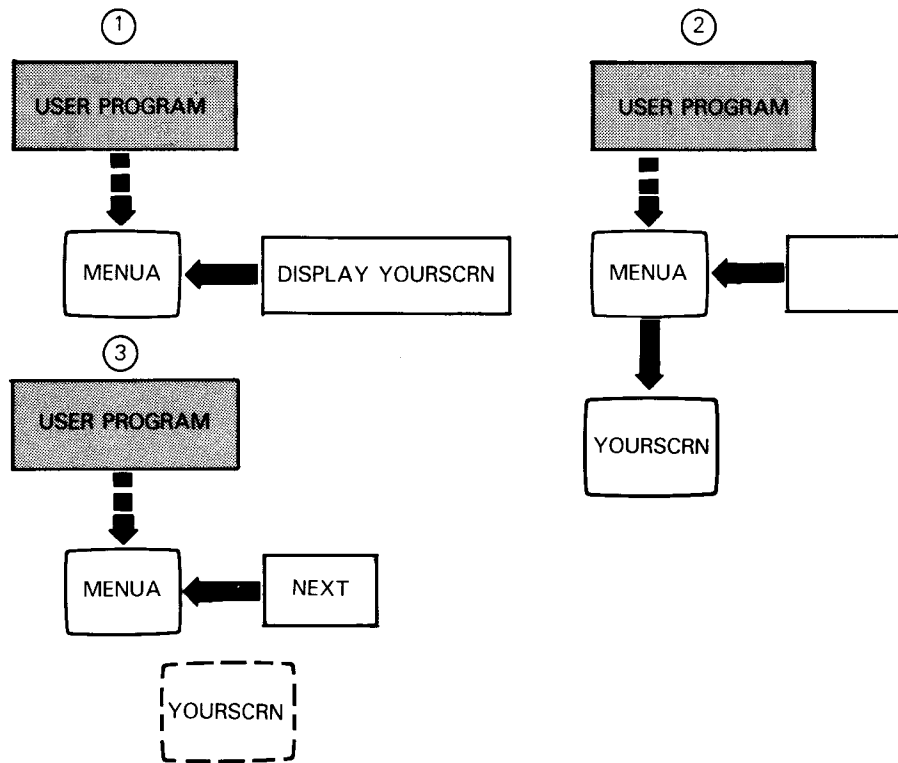

Figure 2-14. An Example of the DISPLAY Command
Unlike SCREEN, this command works only with formats containing fixed fields displayed purely for the operator's information. Therefore, formats used with DISPLAY cannot have any input, output, or bidirectional fields. Figure 2-14 is an example of how to use the DISPLAY command.
In Figure 2-14, ① menu MENUA is executing a DISPLAY YOURSCRN command. ② The command calls upon the SFC to retrieve screen YOURSCRN from a format library file and display it for the operator to read. When finished, ③ the operator presses XMIT, which signals the SFC to return screen control to MENUA.